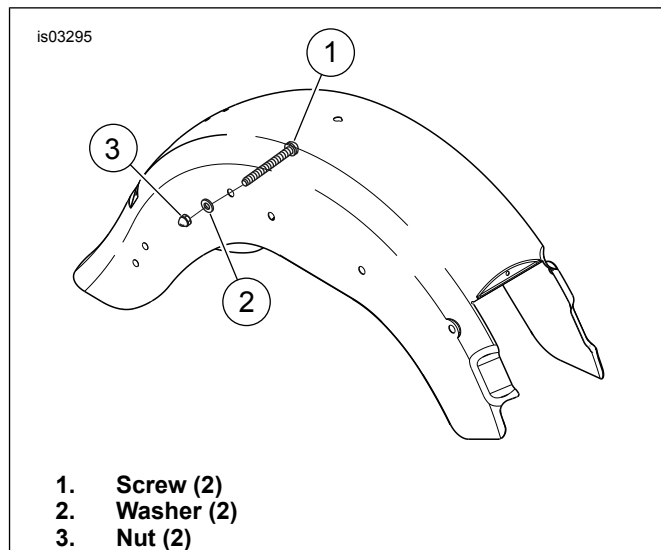

Figure 2. Install Hardware (FLST)
3. See Figure 2. Install saddlebag using screw (from wide tire kit) (1), washer (2) and nut (3). The screws are installed from inside to outside of fender.